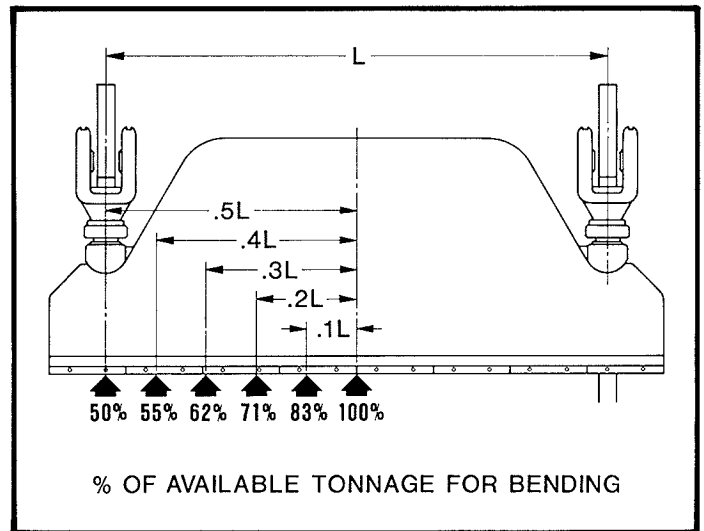

FIGURE 42
Most forming and punching jobs are located on the centerline of the machine where the full rated machine capacity is available. When the load is not located at the center of the machine only a portion of the total capacity is available as shown in Figure 42.
For example, a 13 Series Press Brake has 100% (400 tons) of its rating near the bottom of the stroke available for bending at the centerline of the machine. At either housing, regardless of length, only 50% of the tonnage (200 tons) is available. To determine the available tonnage at a point between the centerline and either housing, the ratios shown in Figure 42 can be used. For example, a 13 Series x 12' Press Brake is 12'-10-1/4" from housing to housings (L). A point .3 of this length is 46-1/4" (.3 x 12'-10-1/4"). Then at 46-1/4" on either side of the centerline of the machine 62% of the tonnage is available, or 248 tons (.62 x 400 tons).